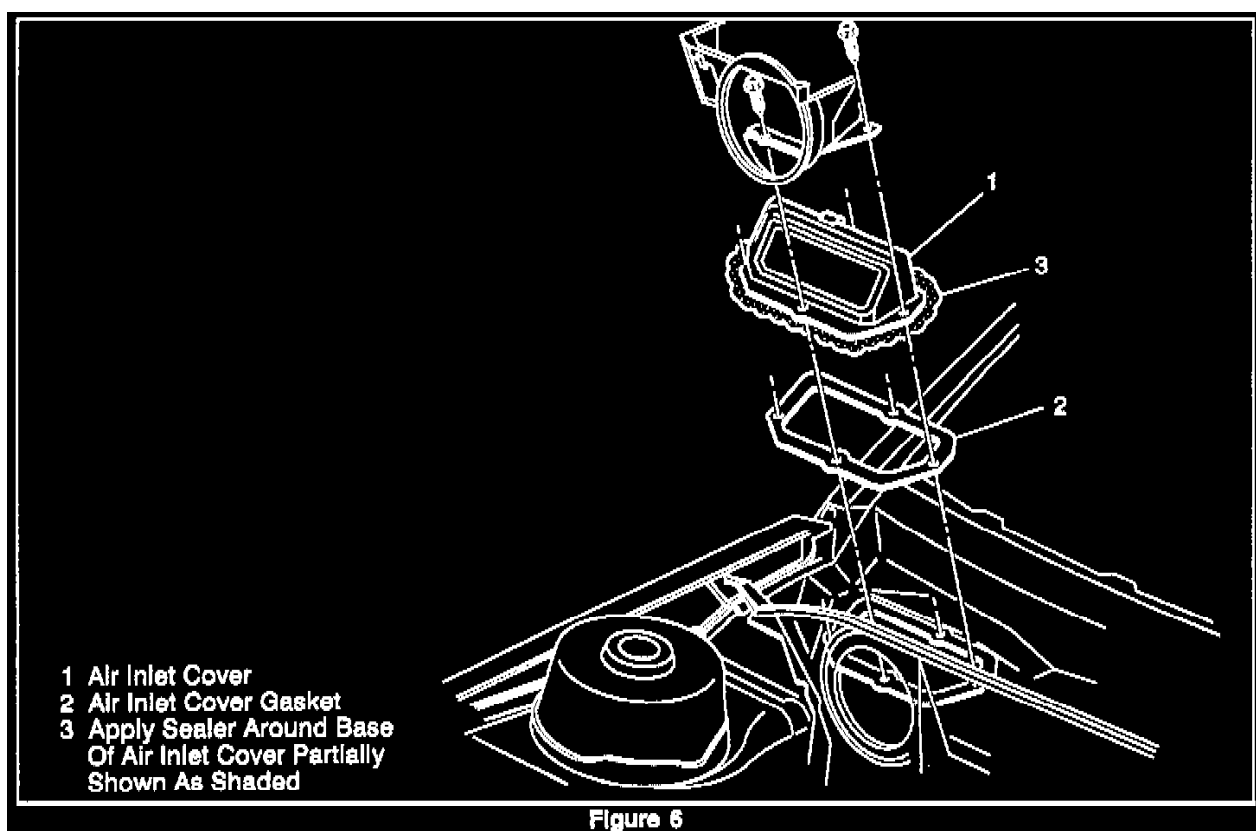

Figure 6
5. Distortion or void in HVAC air inlet stack assembly gasket. Refer to Figure 6.	<ol style="list-style-type: none"> <li>1. Remove air Inlet screen. Refer to Section 10-5 of the Service Manual.</li> <li>2. Inspect for lumps in the seam sealer which could distort the HVAC air Inlet stack gasket. Refer to Step 6 if there are not any lumps in the seam sealer which could cause the HVAC air inlet stack gasket to distort.</li> <li>3. Remove HVAC air Inlet stack.</li> <li>4. Remove seam sealer lumps.</li> <li>5. Install HVAC air Inlet stack.</li> <li>6. Inspect for a void in the HVAC air Inlet stack assembly gasket.</li> <li>7. Apply clear sealer around entire perimeter of HVAC air inlet cover base.</li> <li>8. Allow air sealer to dry.</li> <li>9. Direct water around HVAC air inlet stack assembly gasket.</li> <li>10. Inspect from passenger compartment for leaks.</li> <li>11. Install air Inlet screen. Refer to Section 10-5 of the Service Manual.</li> </ol>